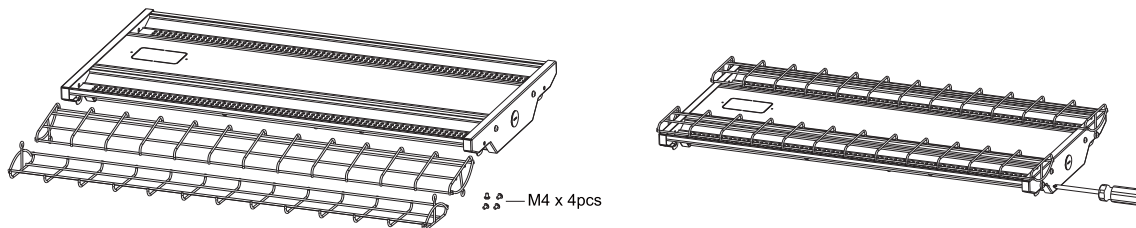

Figure 11
Step 1. Fix the wire-guard on the fixture with screws (Figure 11)